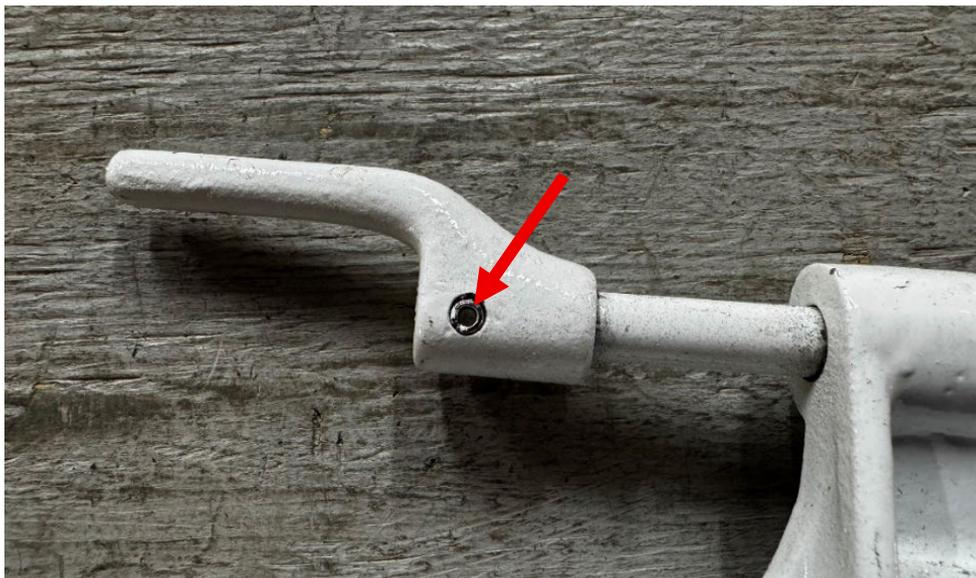

Figure 4
2. Remove the existing Crank Handle from the spindle shaft by removing the spring pin and set aside if it not damaged. (Reference Figure 4)